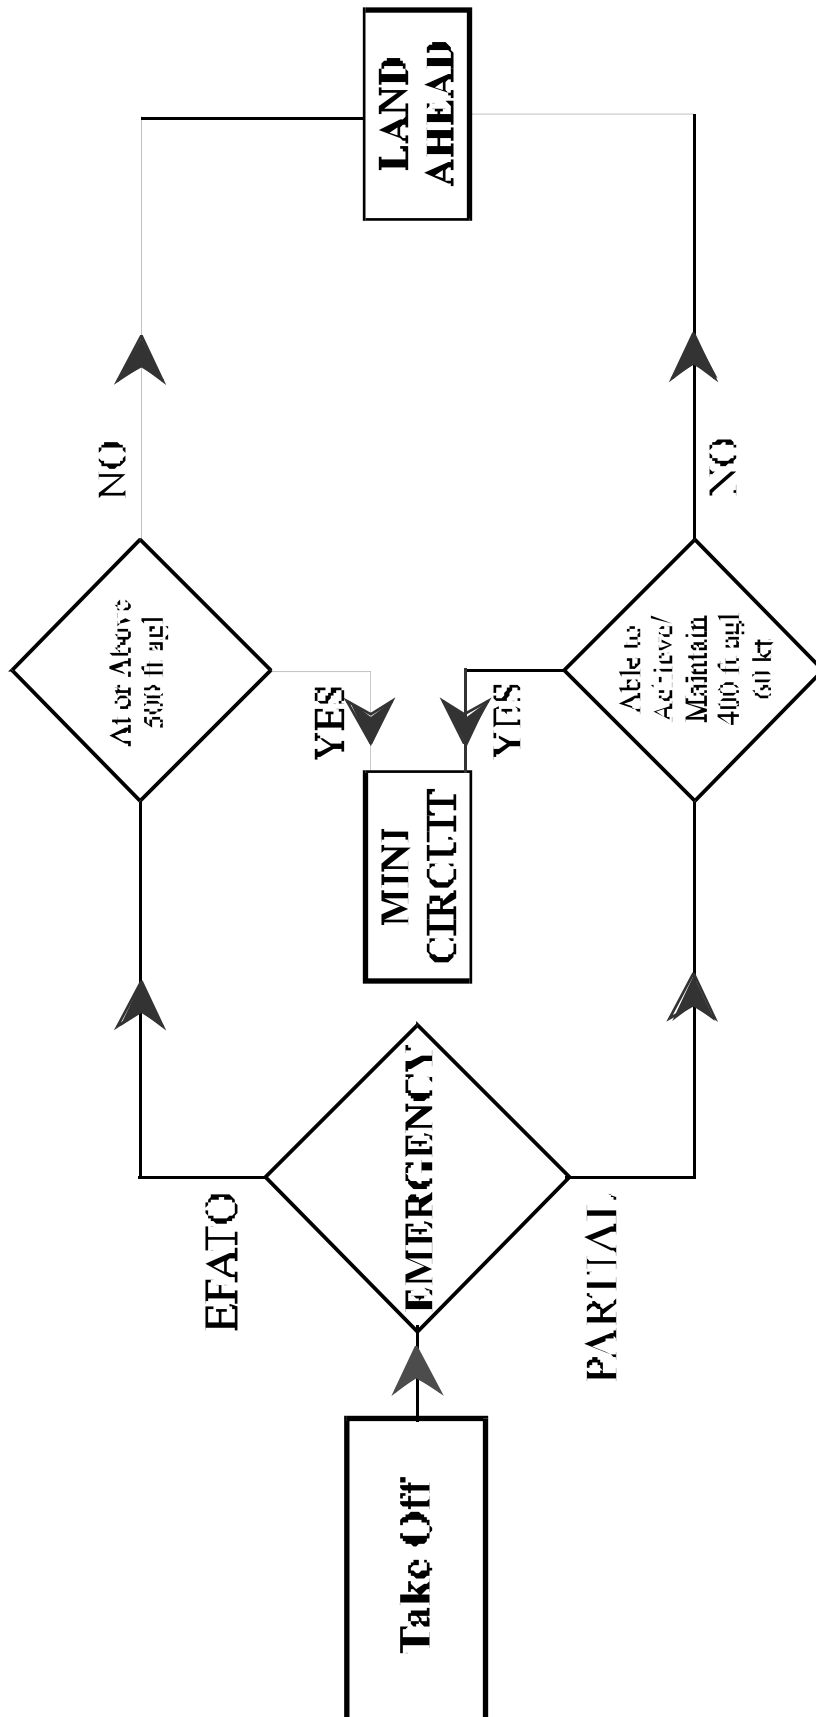

Fig 19. Power Loss Considerations – a flow chart.
8. **Engine fire in the air.** An engine fire in the air will generally become obvious, with smoke in the cockpit and/or a strong smell of burning. The situation should immediately be treated as a PLATO with the FI (see para 3.e.(5) above) checks being a higher priority to remove likely causes of the fire. A landing should be made as soon as possible. Once on the ground and having brought the aircraft to rest, leave the brakes off, open the canopy fully, vacate the cockpit and move upwind.
10. **Power Loss considerations.** See fig 19 on next page.